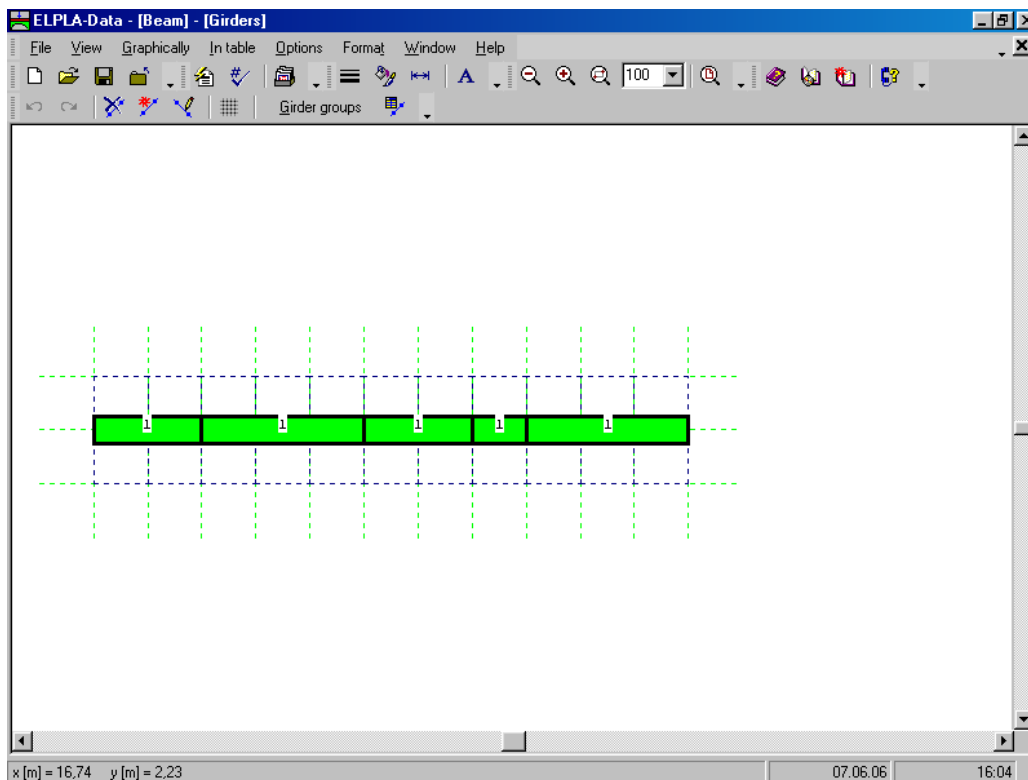

Figure 8-17 Girders on the screen
Repeat the previous steps to add the remaining girders on the net. After you have completed the definition of all girders, the screen should look like the following Figure 8-17.
- Choose "Save girders" command from "File" menu in Figure 8-17 to save the data of girders
- Choose "Close girders" command from "File" menu in Figure 8-17 to close the "Girders" embedded program and to return to the main window of *ELPLA-Data*